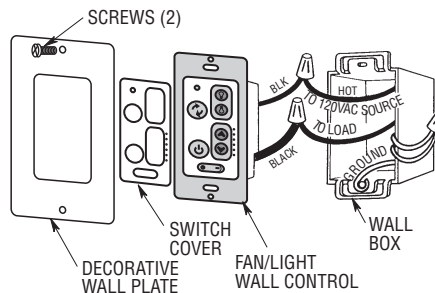

Figure 7
- 4. Connect one black wire of wall control to the “hot” wire. Securely connect wires with wire connectors supplied (Figure 7).
- 7. The wall control is supplied with a white, ivory, and almond color switch covers. Choose the finish that best suits your needs and snap the cover onto the wall control (Figure 7).
- 8. Install decorator wall plate (purchased separately) using the two screws provided with wall plate. Leave wall control in “OFF” mode until fan installation is completed (Figure 7).
- ❑ 7. The wall control is supplied with a white, ivory, and almond color switch covers. Choose the finish that best suits your needs and snap the cover onto the wall control (Figure 7).